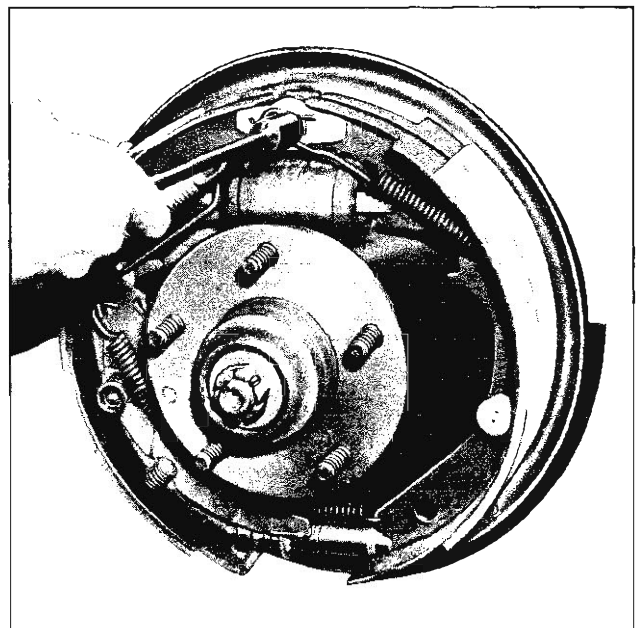

Fig. 6—Unhook Pull Back Spring
4. Unhook brake shoe pull back springs from anchor pin and link end, using Tool J-8049 (fig. 6).